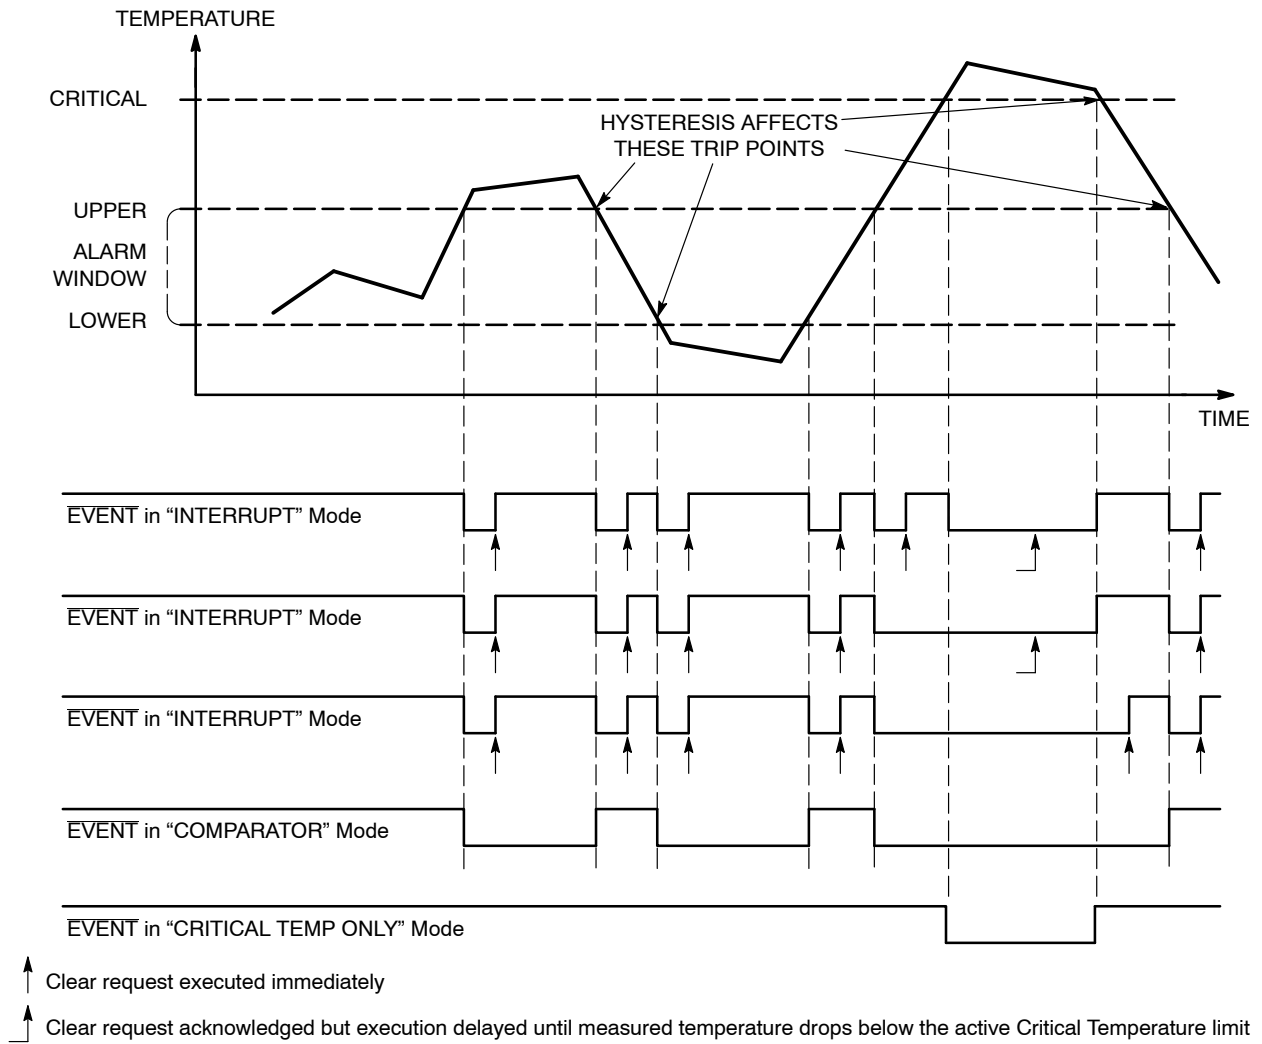

Figure 15. Event Detail
20. Writing a '1' to this bit clears an event condition in Interrupt mode, but has no effect in comparator mode. When read, this bit always returns 0. Once the measured temperature exceeds the critical limit, setting this bit has no effect (see Figure 15).
The $\overline{\text{EVENT}}$ output reacts to temperature changes as illustrated in Figure 15, and according to the operating mode defined by the Configuration register.